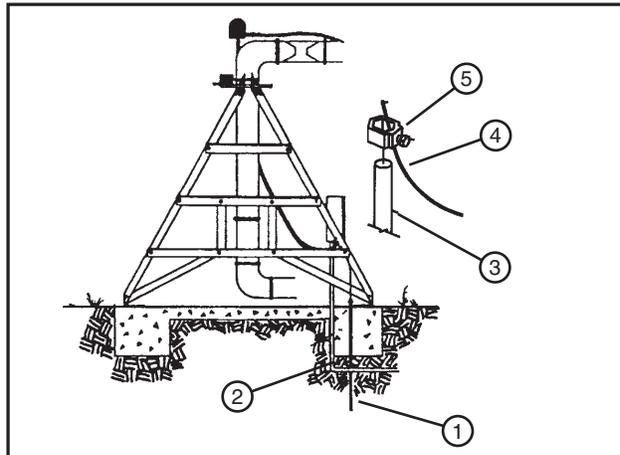

Figure 14-2 1. Ground Rod Installation 2. Service Conductor 3. Copper Ground Rod 4. Copper Ground Wire 5. Clamp
**DO NOT** attempt to start the machine until the electrical service is properly installed and grounded by a qualified electrician as per the electrical standards. See Figure 14-2.